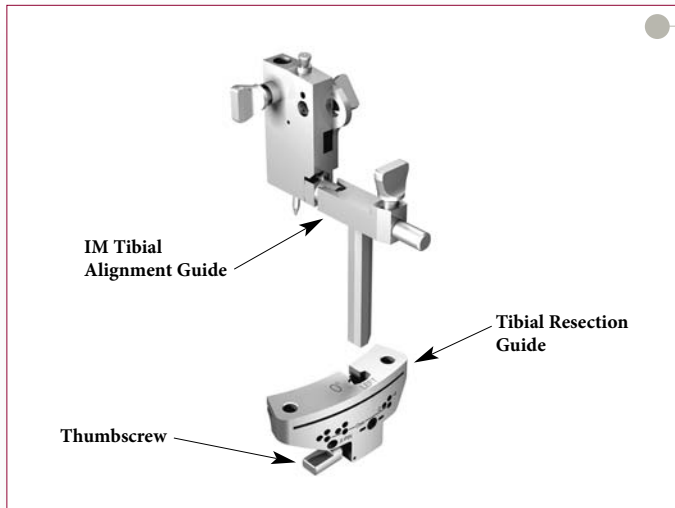

Figure 51
- ▶ Assemble the appropriate Tibial Resection Guide to the IM Tibial Alignment Guide by sliding the Tibial Resection Guide onto the rail of the alignment guide and tightening the thumbscrew on the resection guide (Figure 51).